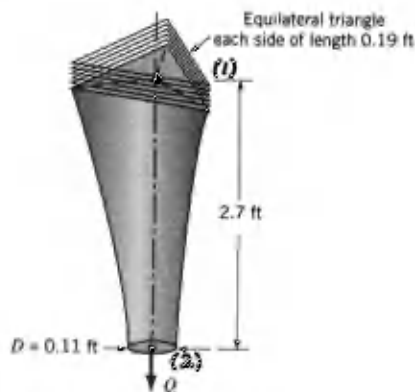

FIGURE P3.6R
3.6R (Free jet) Water flows from a nozzle of triangular cross section as shown in Fig. P3.6R. After it has fallen a distance of 2.7 ft, its cross section is circular (because of surface tension effects) with a diameter  $D = 0.11$  ft. Determine the flowrate,  $Q$ .